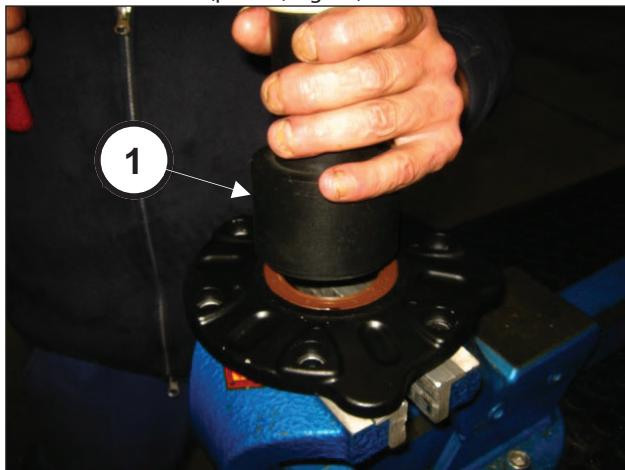

Fig. 77
Insert the oil seal ring inside the pinion cover using the special tool code 27548200 (pos. ①, Fig. 77).